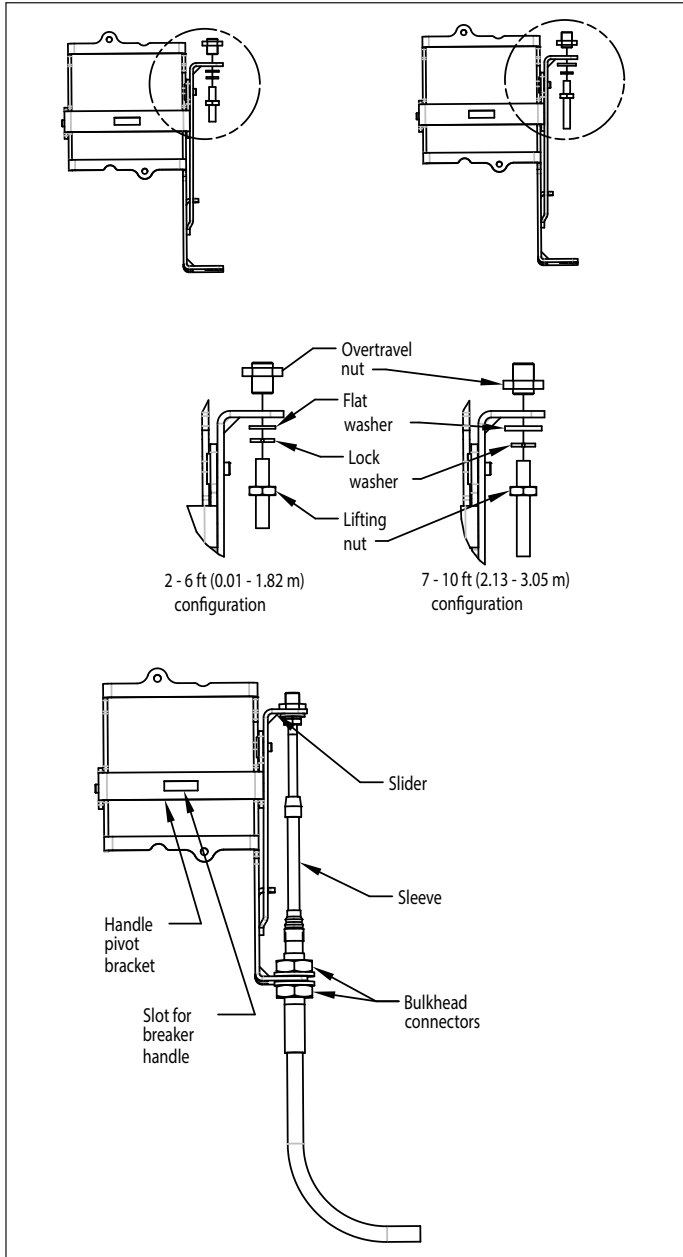

Figure 5. PDG1 actuator mechanism.
The Flex Shaft™ handle mechanism provides a means of externally operating the circuit breaker and can be applied to enclosures of varying heights and depths. The handle can be used with NEMA 1, 3R, and 12 enclosure applications, depending on the accessory components selected. An operating handle, flexible shaft, and mechanism are required for standard application. Nine lengths of shafts are available for use with the wide range of depths of various enclosures (2 ft. through 10 ft [0.61 m through 3.05 m]). When selecting the length of the Flexible Shaft, ensure minimum bending radius of 4 in. (101.6 mm) is maintained to operate properly. The standard method of shipment includes the mechanism preset at the factory. If minor field adjustments are required, see Figure 5. For this publication, the term circuit breaker shall also include the molded case switch and motor circuit protector (HMCP).
In the event a customer must disassemble the preassembled Flex Shaft handle mechanism, the procedure listed below must be followed before continuing with the "Installation" instructions (see Figure 5).
8. Check operation of the mechanism for "On", "Off", and "Reset". Check the reset position of the actuator mechanism, that the lifting nut and sleeve of shaft do not come into contact with each other (see Figure 5). If they do, move bulkhead connectors accordingly. If the mechanism functions incorrectly, repeat the procedure or go to Adjustment checklist.
Loosen the lifting washer/nut while tightening the washer/lock washer/nut. Two or three turns should be sufficient (see Figure 5).
Note: Check the reset position of the actuator mechanism, that the lifting nut and sleeve of shaft do not come into contact with each other (see Figure 5). If they do, move the bulkhead connectors accordingly.
Loosen the washer/lock washer/nut on the end of the shaft while tightening the lifting washer/nut until breaker turns on with positive action. Tighten both nuts and recheck for "On", "Off", and "Reset" positions (see Figure 5).
Note: Be certain after adjustment to have a minimum of one thread past the washer/lock washer/nut assembly (see Figure 5).